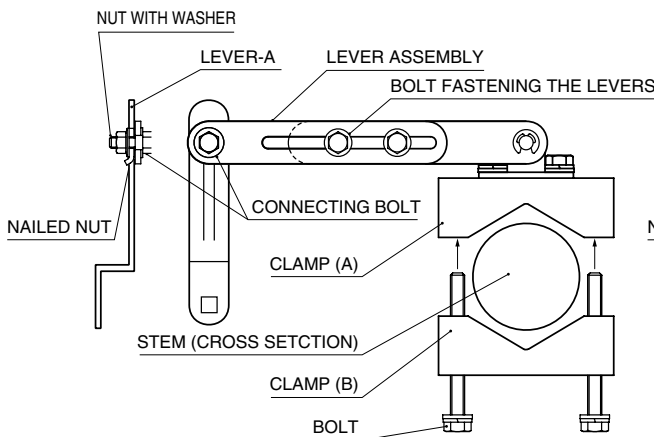

Figure 1. ATTACHING THE VOLK-A, B, B1
**•VOLK-A, B, B1 (See Figure 1 below.)**